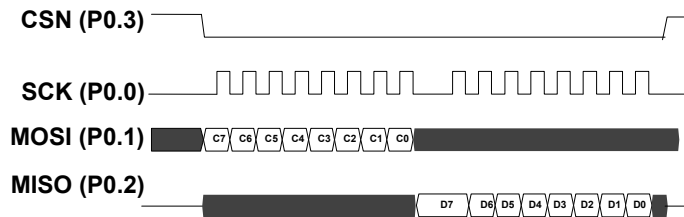
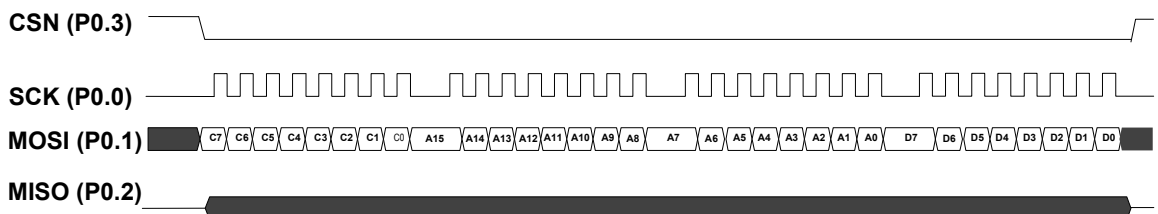

Figure 71. SPI read command without address
Figure 74. SPI flash write operation, shown with 1 databyte
An SPI command always starts with the external master sending a command byte to the flash slave, followed by a variable number of address and data bytes. The number of address and data bytes are specific to each command, as shown in Table 121. on page 147. In Figure 71. to Figure 74. Cn is the SPI command bit, An is the address bit and Dn is the data bit (note: MSBit in each byte first). After CSN is deactivated, a flash write or erase command requires the chip to do the flash programming or erase, and this will take some time to complete therefore, it is advised not to issue a new command until the specified amount of time has elapsed. Alternatively, you can repeatedly issue RDSR commands until the `FSR.RDYN` bit reads back as 0.
The SPI command RDSR reads out the content of the flash status register FSR, and consists of 1-command byte and 1-data byte as shown in Figure 71. on page 148. By keeping the CSN line active after the first data byte, FSR will be repeatedly re-read until CSN is set inactive.
3. The `PROGRAM` command is sent on the MOSI line followed by the two-byte address (address of the first byte) and the data to be programmed/ written, as shown in Figure 74. on page 148.
The SPI command `RDFPCR` reads out the content of the flash project configuration register `FPCR`, and consists of 1 command byte and 1 data byte as shown in Figure 71. on page 148.